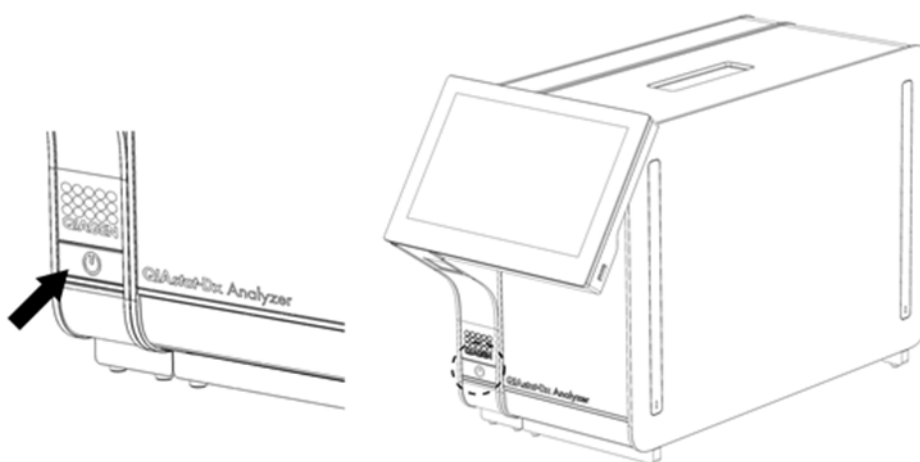

Figure 22. Pressing the ON/OFF button to start the instrument.
1. Press the **ON/OFF** button on the front of QIAstat-Dx Analyzer 2.0 to start the unit (Figure 22).